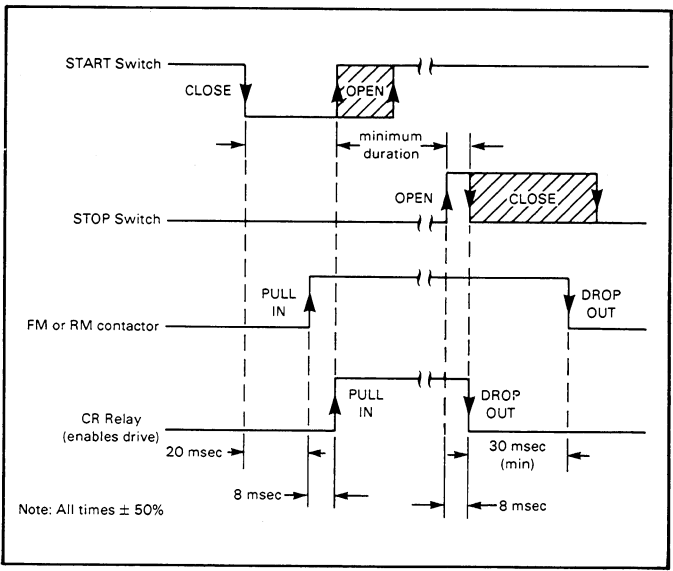

Figure 6.2. Relay control sequencing.
- Figure 6.2 which is a timing chart for the relay control sequencing used with this controller.